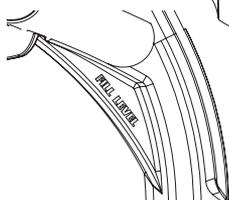

Fig. 3
4. Fill both the bowl and the fountain housing with water only until the water reaches the fill level in the bowl (Fig. 3). Over filling may result in too much splash during use.